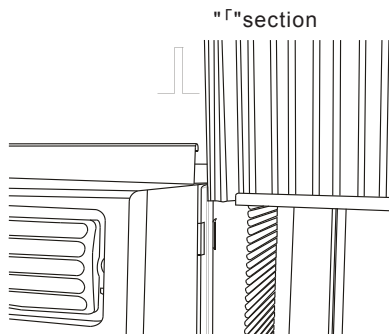

Fig. 2
- B. Slide the free end "Γ" section of the panel directly into the cabinet as shown in Fig. 2. Slide the panel down. Be sure to leave enough space to slip the top and bottom of the frame into the rails on the cabinet.